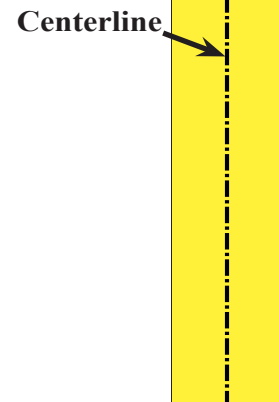

Fig. 16
Step 3. Click **Centerline**  (S) in the **Line** flyout  on the Sketch toolbar.
Step 4. Draw a centerline from the midpoint on the bottom edge up through the sketch, **Fig. 16**.